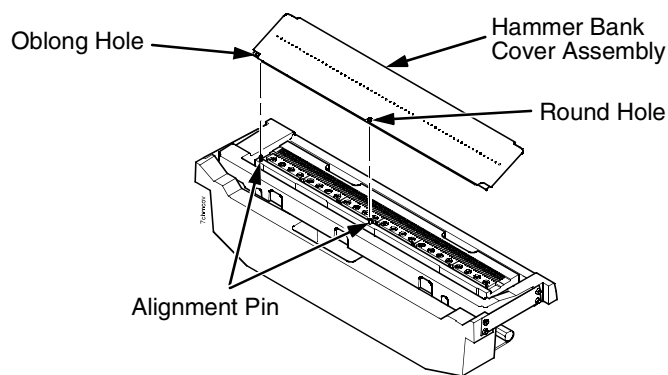

Figure 15. This figure shows how to install the hammer bank cover assembly.
3. Lift the thick plate of the hammer bank cover assembly at one end, and peel the cover away from hammer bank magnets. (See Figure 15, page 342.)
1. With the thick plate facing the hammer bank, hold the hammer bank cover assembly at a slight angle and engage the bottom edge on the alignment pins. First engage the center (round) hole, then the left (oblong) hole, to ensure that the cover lies flat on the hammer bank. (See Figure 15, page 342.)